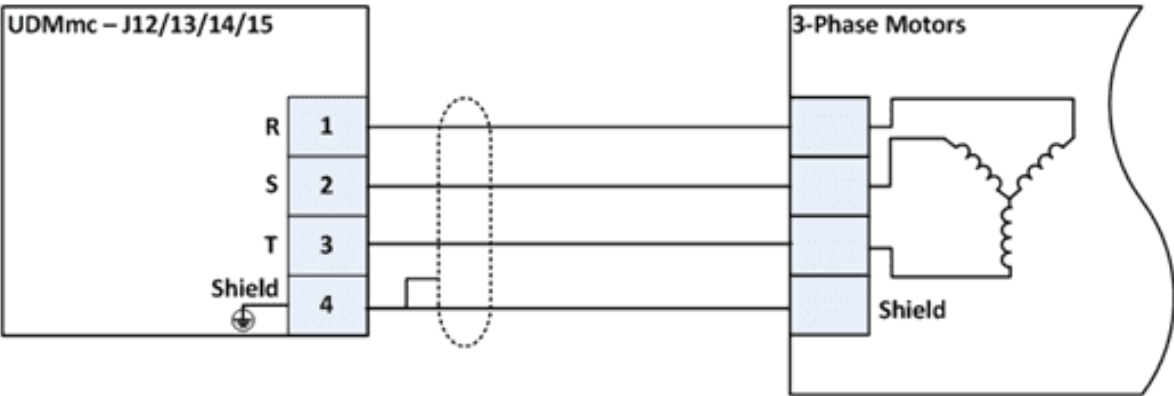

Figure 3-13. 3-Phase Motors (AC synchronous, Step Motor) Connections
- > 3-phase (AC Synchronous / DC Brushless step motor), see Figure 3-13.